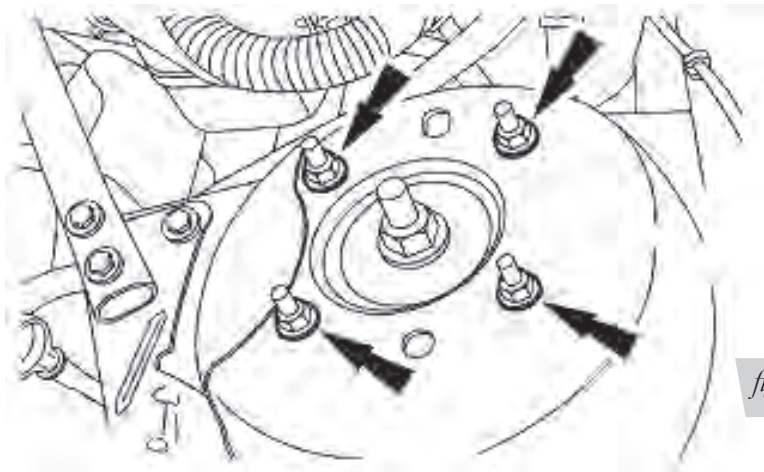

fig. C.4
5. Under the hood, unscrew the upper mount from the vehicle chassis (Fig. C.4). Remove strut from vehicle.